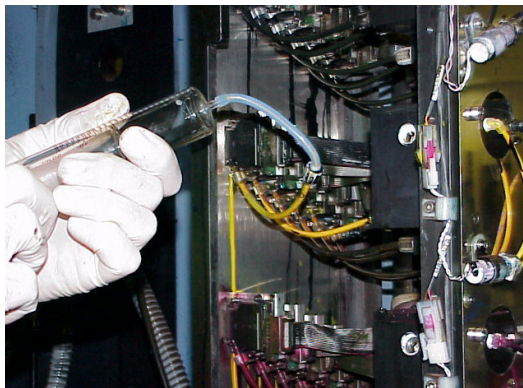
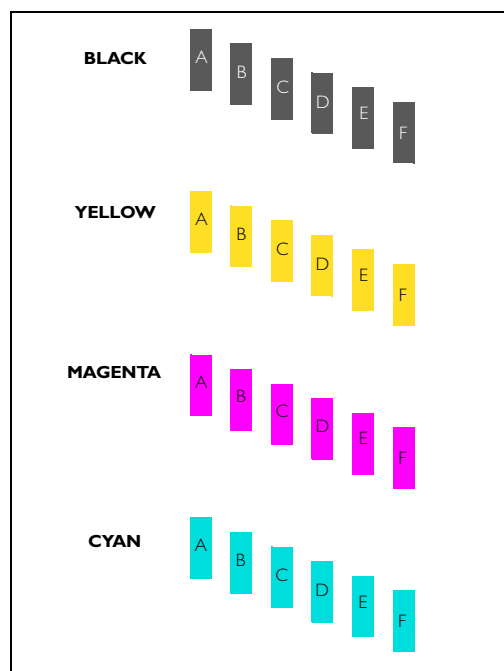

Figure 34. **Flushing the Print Head with Solvent**
Figure 36. Print Head Arrangement on Head Carriage
- Working from the *top* of the head carriage and starting with the *innermost* print head (*black* labelled **F** in [Figure 36 on page 3-11]), proceed as follows:
8. Attach a spare ink filter to two lengths of silicone tubing, making sure that the connections are screwed firmly into position on the upper and lower portions of the filter (as illustrated in Figure 34).
They should be connected so that the flow of solvent is *always in the same direction*, to prevent clogging. For this reason it is helpful to mark a directional arrow on the filter connections with a felt-tipped pen (see Figure 34).
11. Using steady pressure on the plunger, slowly inject the solvent into the print head, until the syringe is completely empty - see Figure 34.
Note: Figure 34 does not show the filter attached to the syringe.
For clarity and demonstration purposes, the print head being injected with solvent in Figure 34, corresponds to the head labelled **A (and not **F**) in Figure 36.**
16. Working *outwards*, repeat Step 6, Step 7, and Step 9 through Step 15, to inject each of the remaining *black* print heads in the row with solvent. (Referring to Figure 36, the sequence would be as follows: *E*; *D*; *C*; *B*; and finally *A*).
Each block of printed lines corresponds to the print head arrangement on the head carriage - see Figure 36.